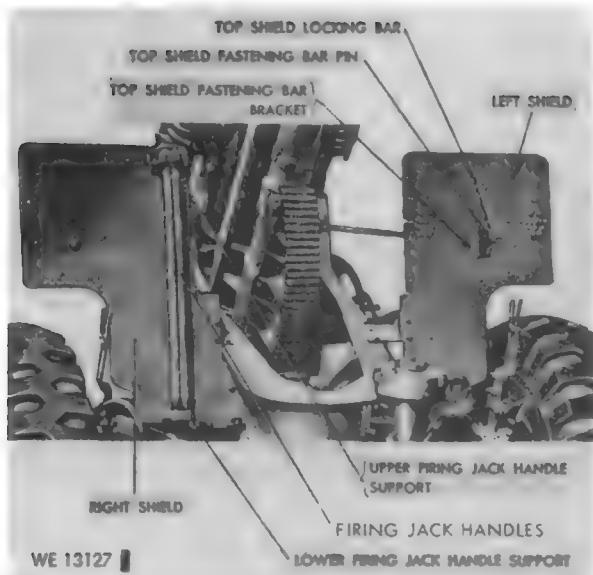

Figure 54. Right and left shields.
- (8) Remove the telescope from the panoramic telescope case on the rear of the left shield and lock it in position in its mount (para 41a(1) and (2) and b(1)). Release the top shield locking bar from the top shield fastening bar bracket (fig. 54) by removing the top shield fastening bar pin. Then lower the top portion of the left shield, and lock it in the lowered position by reinserting the fastening bar pin through the holes in the fastening bar bracket and locking bar.
- (9) Raise carriage M1A2 and M32 firing jack as follows:
(e) Remove the firing jack handles from the upper and lower firing jack handle supports on the front of the right shield (fig. 54), and insert them in the firing jack handle sockets in the ratchet body (fig. 56). Operate the firing jack handles horizontally until the tires clear the ground.
(c) Remove the firing jack handles (fig. 54) from the upper and lower firing jack handle supports on the front of the right shield, and insert them in the firing jack ratchet case sockets (fig. 21). Operate the firing jack handles vertically to raise the carriage until the rack plunger is lowered to the limit of its travel.